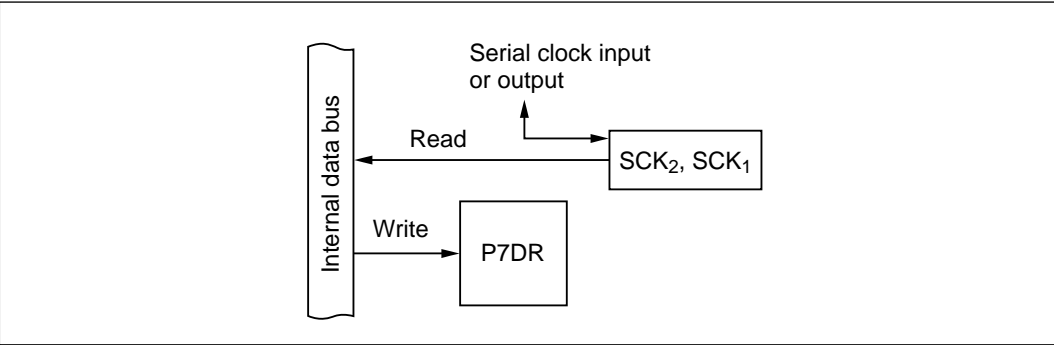

Figure 10-51 SCK₂ and SCK₁ Pins (Modes 1 to 7)
(7) **SCK₂ and SCK₁ Pins (P7₇ and P7₆: Modes 1 to 7):** Figure 10-51 shows a block diagram illustrating the SCK₂ and SCK₁ input/output function. Table 10-42 indicates register read/write data. When P7₇ and P7₆ are used for SCK₂ and SCK₁ input or output, the value written in P7DR is ignored, but P7DR can be read to monitor the levels at the SCK₂ and SCK₁ pins.